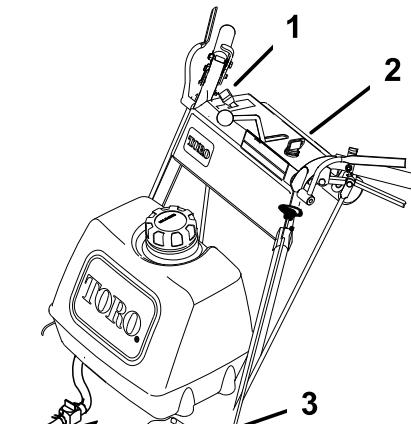

Figure 8
- 11. Push the choke to off as the engine warms up (Figure 8).
1. Move the throttle lever to slow (Figure 8).